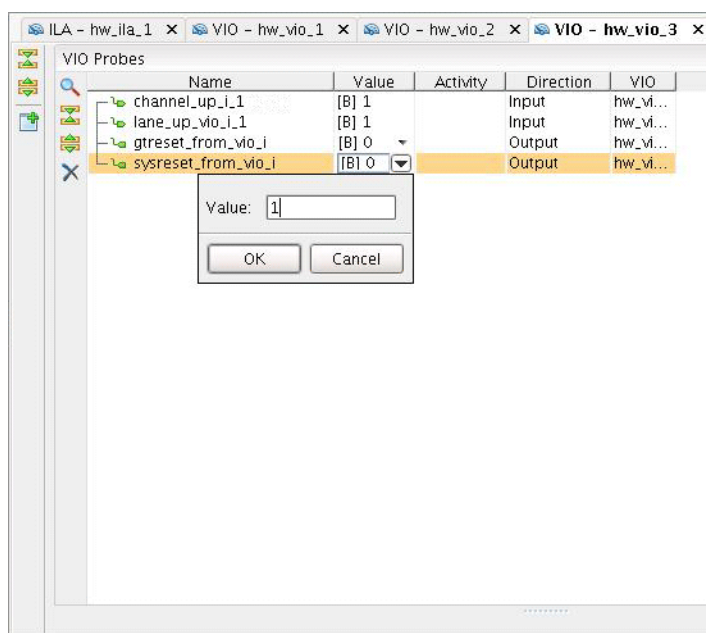

Figure 27: Toggle Reset Signals
4. Toggle the reset signals (see Figure 27). The channel\_up\_i\_1 and lane\_up\_i\_1 signals should go Low, then return High after each reset signal is toggled.
1. Set one of the reset signals High (Figure 27).